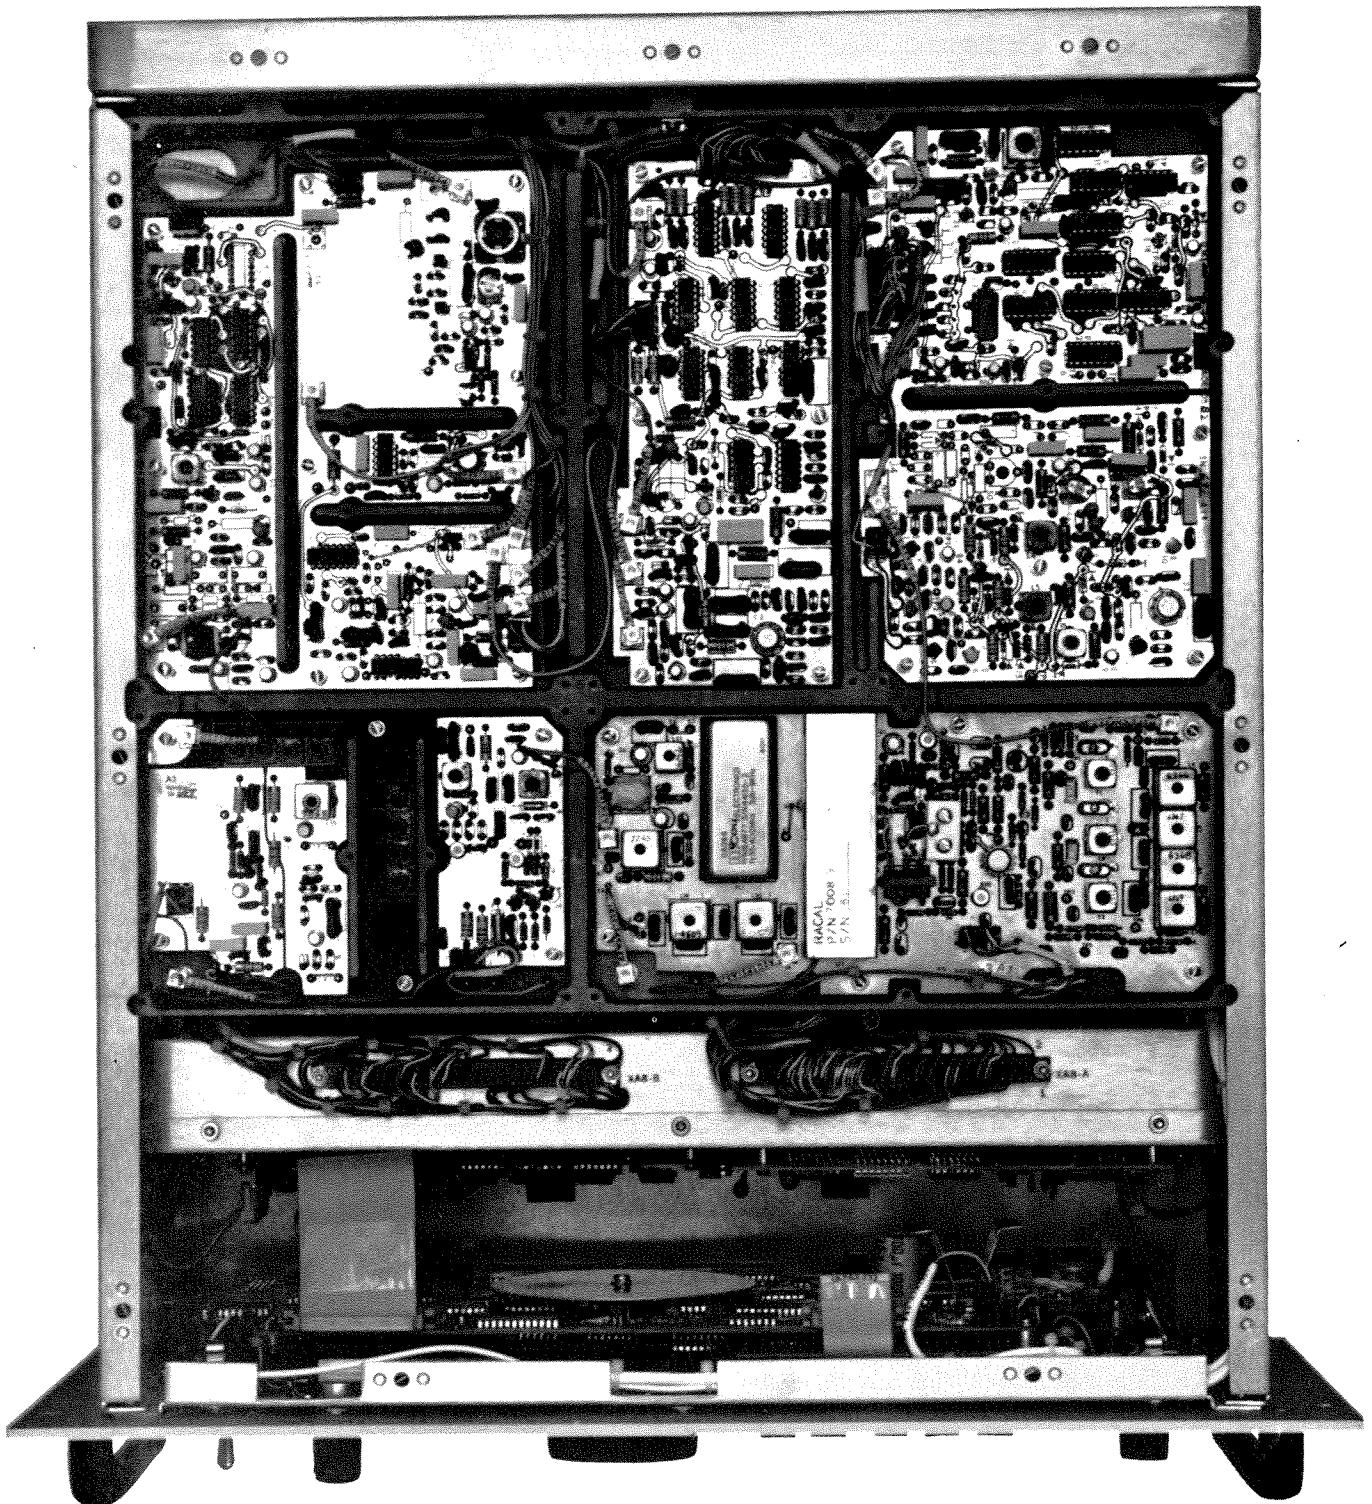

Figure 1-3. Bottom View, RA6778C Receiver
Figure 1-2 is a top view (with covers removed) and Figure 1-3 is a bottom view (with covers removed) of the RA6778C Receiver. A rigid, die-cast, full width chassis provides the basis for the main frame of the receiver. Essentially all receiver circuitry, including front panel controls and displays, are contained on modules mounted on the chassis. Table 1-1 lists all the modules used in the RA6778C receiver. It should be noted that modules A6, A7, A11 and A23 are each made up of two separate boards. Mounted within compartments on the underside of the chassis are the mixer modules and a portion of the frequency synthesizer circuitry modules. On the top side close to the front panel are the front panel and control modules. The power supply and frequency standard modules are also mounted on the top side.
- (d) Figure 1-3 shows a bottom view of the chassis. To gain access to any of the 5 boards contained in this section, remove the shielding cover from the appropriate compartment. A printed circuit board may be removed by disconnecting the cables and loosening the captive screws. To reassemble the receiver follow the reverse procedure.